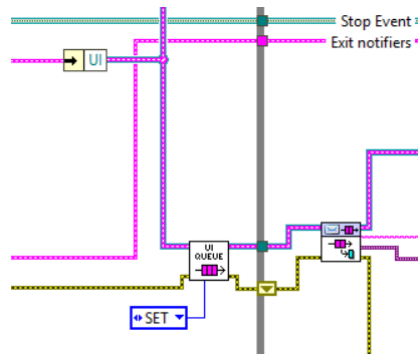

Fig. 3. Setting UI queue reference in MHL Queue Ref Holder
- Place **MHL Queue Ref Holder** before UI MHL Loop in Main.vi (Fig. 3)